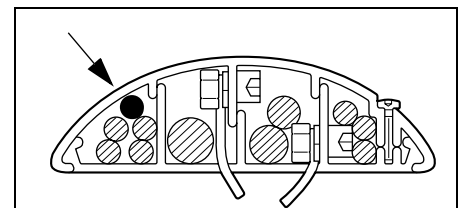

Figure 6.
- Lay the cable between generator and stand, in one of the outer cable duct compartments, see Figure 6.